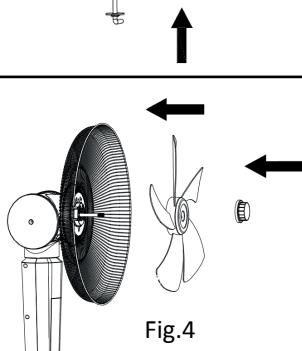

Fig.4
- d-. Fit the fan blade on the motor axel, tightly fixing by blade screw in crosswise (Figure4).